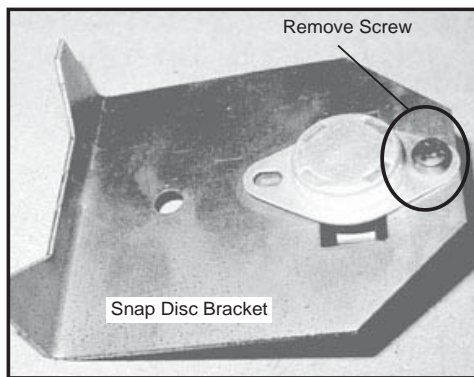

Figure 23.1
6. Using a #2 Philips screwdriver, remove the screw securing the snap disc to the bracket. **Figure 23.1 on page 23.**